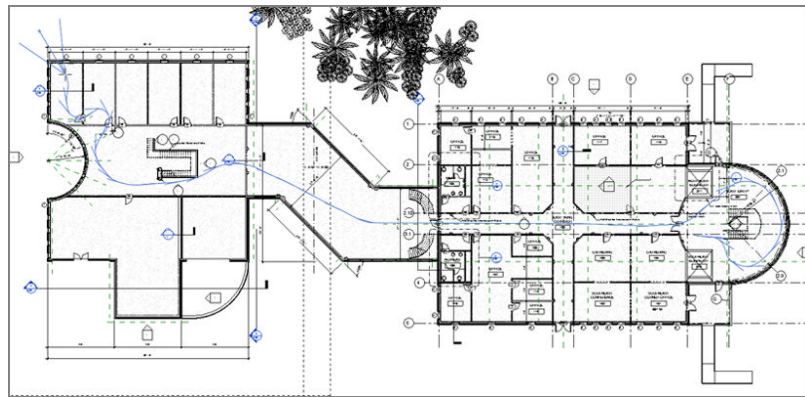

FIGURE 19.20: Sketching the walkthrough path
5. Keep picking points down the hallway, into the corridor, and into the west wing, as shown in Figure 19.20.